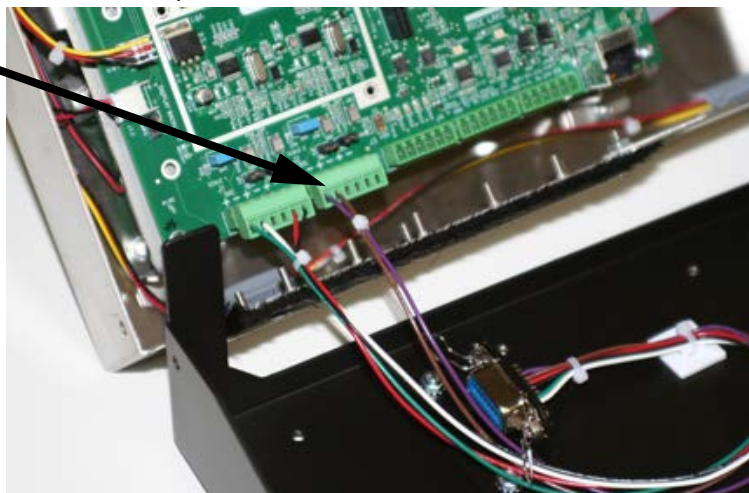

Figure 2-8. J2 Connector Location
3. Plug into the J2 connector on the CPU board (example shown in Figure 2-8).